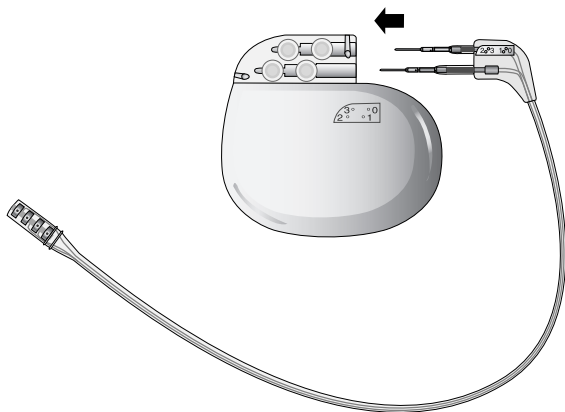

Figure 1. Insert the extension connector pins fully into the neurostimulator.
3. Insert the appropriate extension connector pins into the appropriate neurostimulator socket until they are seated fully within the connector block (Figure 1). If resistance is felt while inserting the connector pins, use the torque wrench (packaged with the neurostimulator) to retract the setscrews.